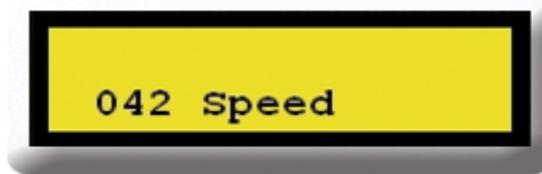

Figure 3 – Speed of oncoming vehicles being recorded.
- The backlight on the display will turn off after 1 minute of inactivity from the user. If a card is in the unit, it will continue recording data and display speeds, *Figure 3*. Press any key to turn on the backlight again.